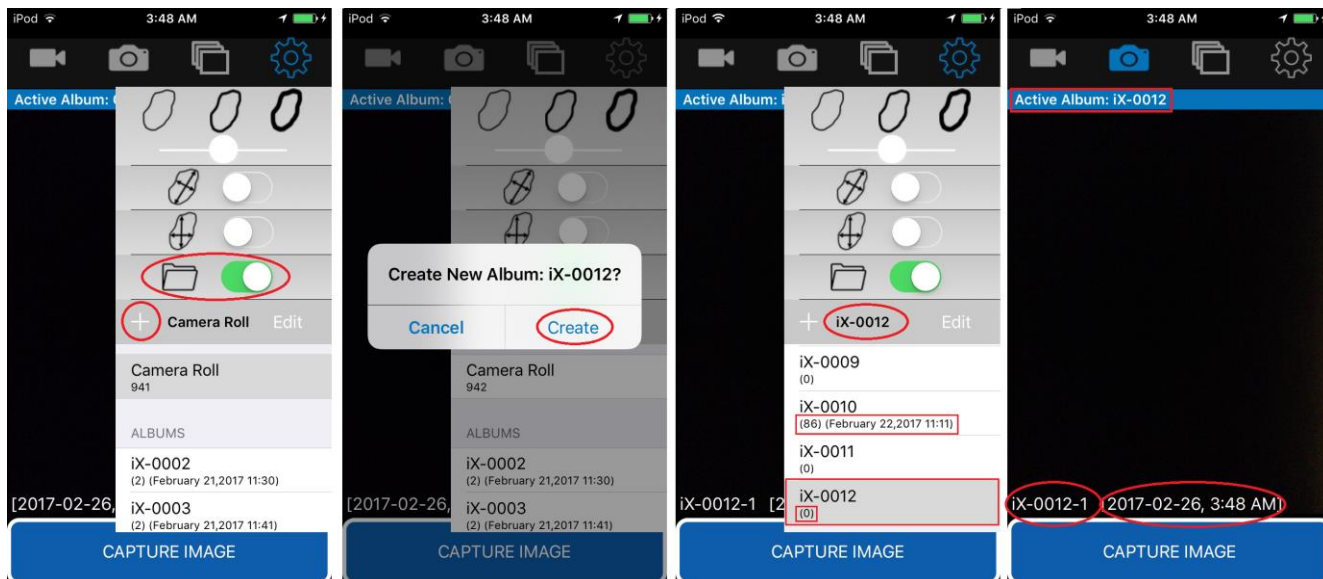

Figure 13: Creating a New Album
5. As depicted in Figure 13, a unique Image ID containing the Album name followed by “*photo number*” appears on the bottom left side of the image along with the date and time of acquisition. This Image ID will appear at the bottom of the saved photo and will automatically increment each time a new photo is taken.